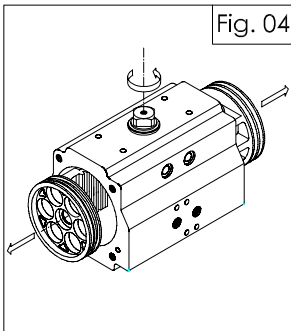
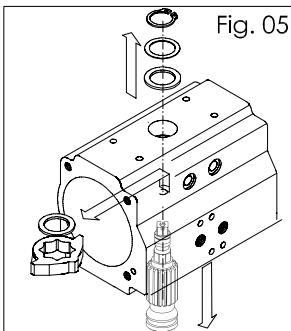

Fig. 04
Fig. 05
D) Pistons disassembly (Part NO.07),figure 04:
- Holding the body (06) in a vice or similar device, rotate the drive shaft (23) until the pistons (07) are released. Caution: Air pressure should not be used to remove the pistons from the body.
- Remove piston "O" rings (13) using a small screwdriver; remove the piston back (14) and piston head (15) bearings. Discard bearings when replacing all soft components.
E) Pinion shaft disassembling (Part NO.23), figure 05:
- Remove spring clip (03) carefully, using nap-ring pliers, remove external thrust bearing (05) and thrust washer (04).
- Apply downward force to top of drive shaft (23) until it is partially out of the bottom of the body when it is possible to remove the octi-cam (22) and internal thrust bearing (05), then push the pinion (23) completely out of the bottom of the body. If pinion does not remove freely gently tap the top of the shaft with a plastic mallet.
- Remove top and bottom pinion bearings (20) and (24) and top and bottom pinion O-rings (25) and (19).
- Discard bearings (20) and (24), internal and external thrust washer (05) and O-rings (25) and (19) if replacing all soft components. When all components are disassembled, those not being replaced should be properly cleaned and inspected for wear prior to being greased and re-assembled.